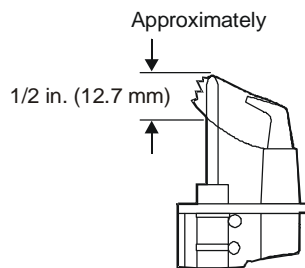

Figure 3: Flame Position
- A flame approximately 1/2 in. (12.7 mm) high must surround the thermocouple tip (see Figure 3).